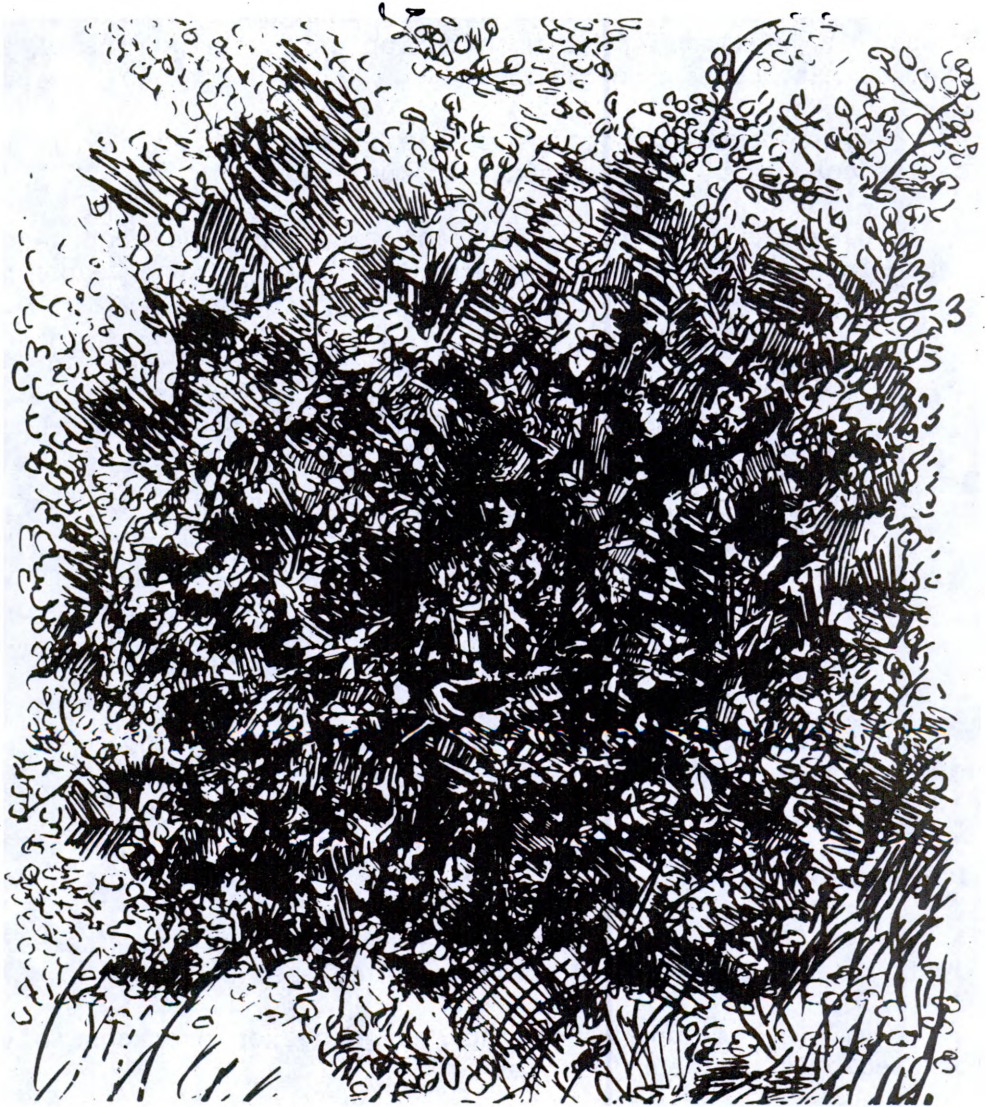

Figure 5
(1) You can make a uniform blend with the terrain by dyeing it or by attaching bow ties of colored burlap.
(2) A mixture of mud and grease or crankcase oil may be used to stain your uniform.
(3) When operating in snow-covered terrain, you can make a snowsuit from a sheet, mattress cover, or other white cloth.
6. To blend with your surroundings (fig. 5): Blending is the use of camouflage materials on, over, and around an object so